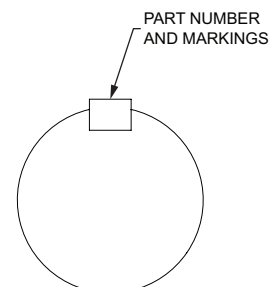

Figure 1 - Key Marking
1. One bushing assembly is required to mount the reducer on the driven shaft. An assembly consists of two tapered bushings, bushing screws and washers, two bushing backup plates and retaining rings, and necessary shaft key or keys. The driven shaft must extend through the full length of the reducer. If the driven shaft does not extend through the reducer do not use the standard tapered bushings; instead use the short shaft bushings as described in the Short Shaft Bushings section that follows. The minimum shaft length, as measured from the end of the shaft to the outer edge of the bushing flange (see Figure 1), is given in Table 1.
NOTE: In most cases the keys that are supplied with the bushing kit are NOT square keys, and the orientation of the key is important. Install the key so that it fits snugly in the width of the keyseat. The keys are marked with a part number and some keys are also etched with "THIS SIDE UP" – these markings should be showing on the top of the key when it is installed in the shaft keyseat, see Figure 1 below.